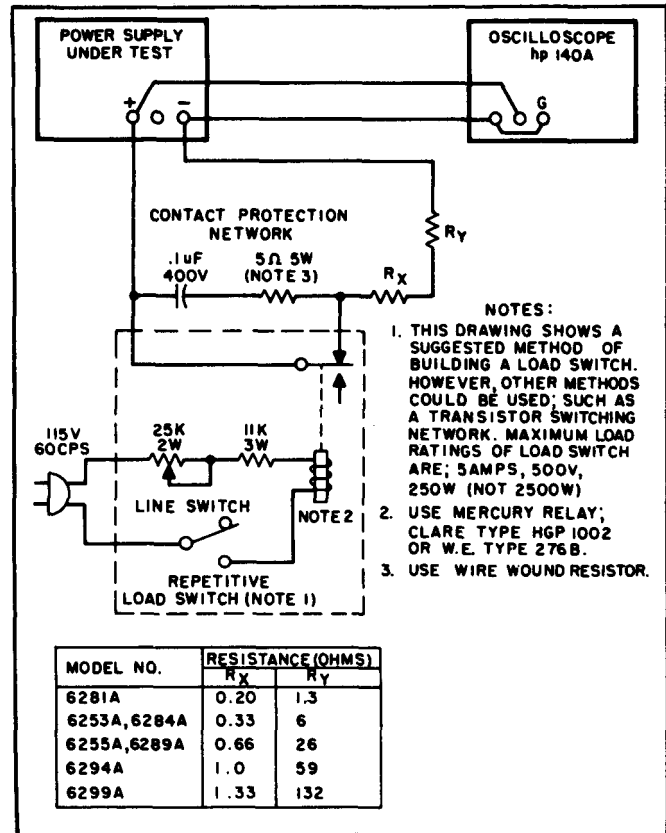

Figure 5-8. Transient Response, Test Setup
- a. Connect test setup shown in Figure 5-8.